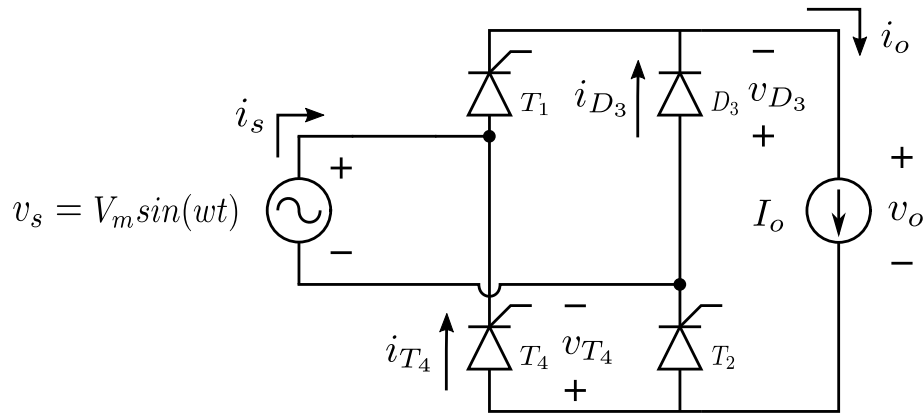

Fig. 2: Single-phase semi-controlled bridge rectifier.
2. Venu did a basic course in Power Electronics, got interested and built a single phase controlled full bridge rectifier with SCRs feeding a highly inductive load. The source inductance ( $L_s$ ) in his circuit was too low that it can be assumed to be zero. From his observation of the various circuit waveforms in an oscilloscope, he found that there was some hardware issue. He identified the issue to be arising from the gate drive of one of the four SCRs. Due to the hardware issue, one device alone was always being fired at an angle of  $0^\circ$  instead of the set  $\alpha$ , for all values of  $\alpha$ . Fig. 2 shows the controlled full bridge circuit with the hardware fault. The device with the faulty firing circuit is indicated as a diode  $D_3$  based on its operation.